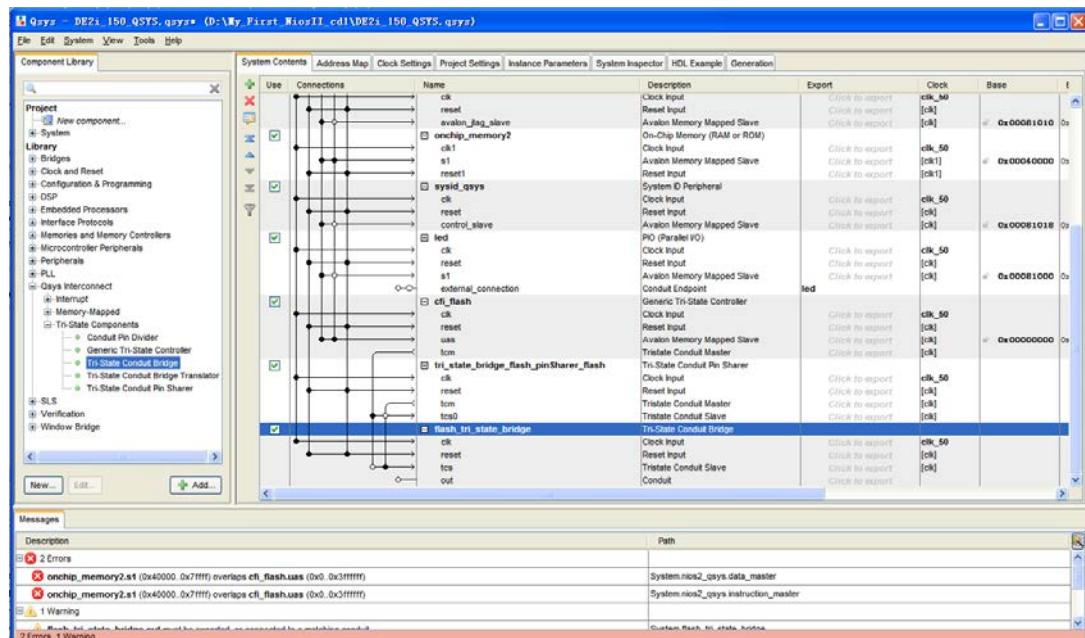

Figure 3-17 Connect signals
11. Connect the **clk**、**reset** 、**tcs**、**tcm**、**tc0** and **uas** as shown in Figure 3-17.